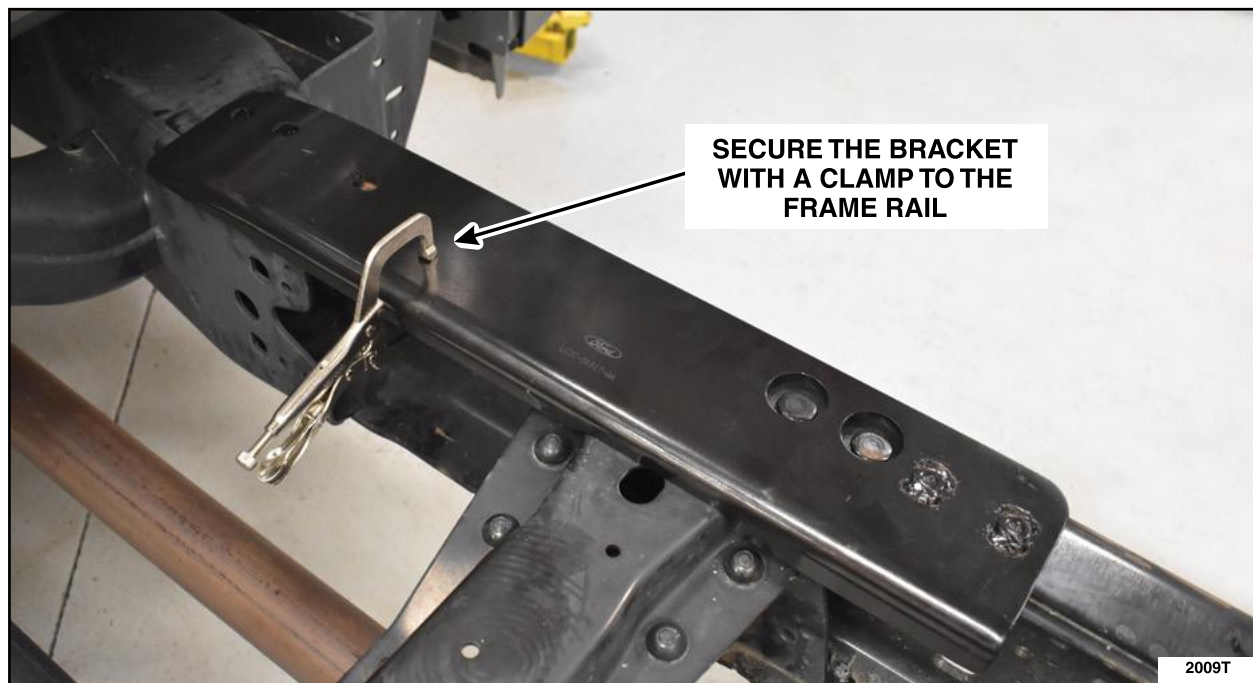

FIGURE 12
- c. Clamp the bracket to the frame and center punch the front two (2) holes. See Figures 12 and 13.